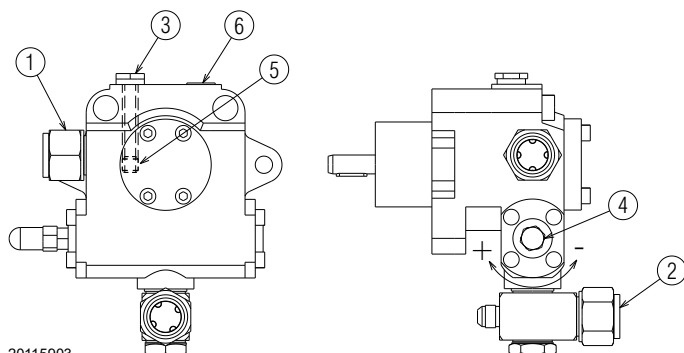

Fig. 21
The pumps are installed on the burner with the by-pass closed by screw 6)(Fig. 21). It is therefore necessary to connect both hoses to the pump.
#### Key (Fig. 21)
- In order for the pump (Fig. 21) to self-prime, it is vital that the screw 4) of the pump be loosened to vent the air contained in the suction line.